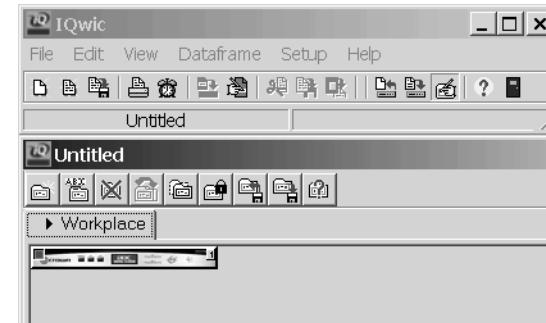

Figure 1.12 The IQwic Toolbar (Top) and Workspace (Bottom)
5. The IQwic toolbar and Workspace appear. An icon of the DBC Network Bridge appears in the Workspace (Figure 1.12)